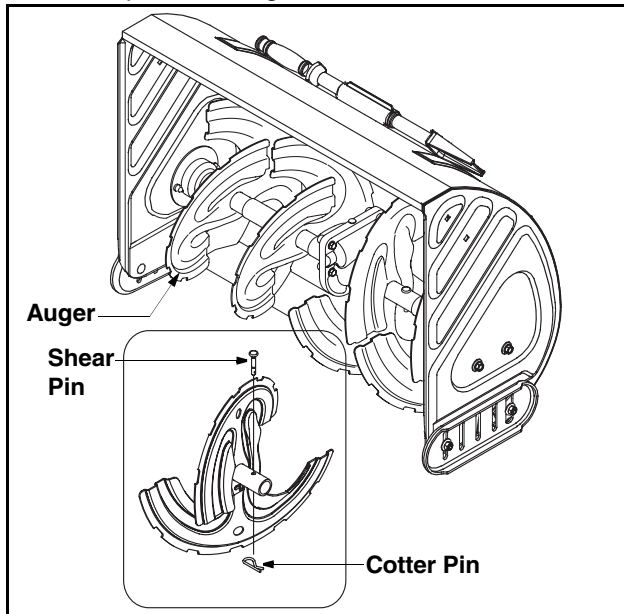

Figure 12
- **Auger Shaft:** At least once a season, remove the shear pins from the auger shaft and spray lubricant inside the shaft. See Figure 12. Grease fittings can be found at either end of the auger shaft. Lubricate with a grease gun once a season.
The augers are secured to the spiral shaft with six shear pins and cotter pins. See Figure 12 .
2. Replace the pins if needed. Two replacement shear pins and cotter pins have been provided with the snow thrower. Spray an oil lubricant into shaft before inserting new pins and securing with new cotter pins. See Figure 12.